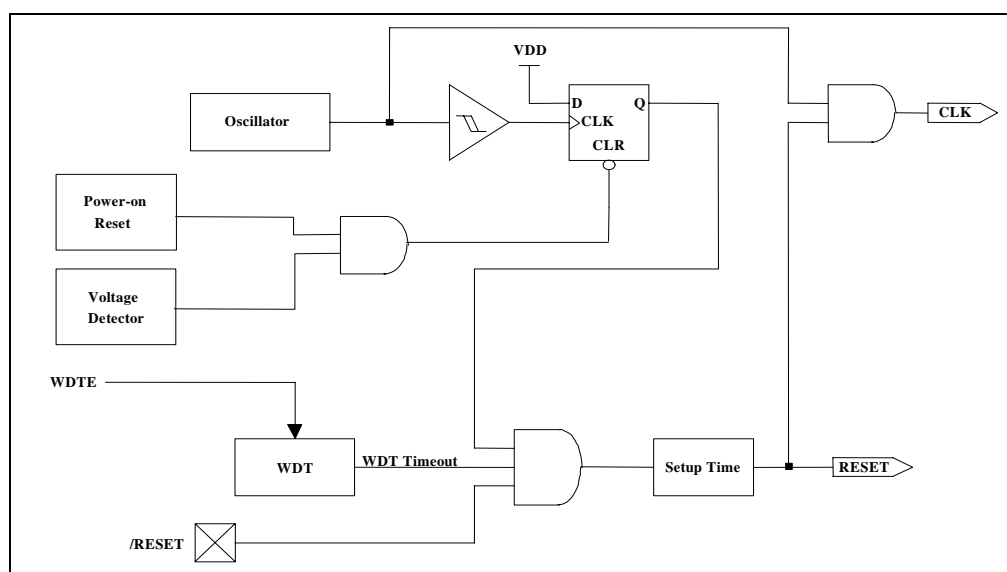

Fig. 4-7 Controller Reset Block Diagram
The flag (except ICIF bit) in the Interrupt Status Register (RF) is set regardless of the status of its mask bit or ENI execution. Note that the outcome of RF will be the logic AND of RF and IOCF (refer to Fig. 4-7 above). The RETI instruction ends the interrupt routine and enables the global interrupt (execution of ENI).